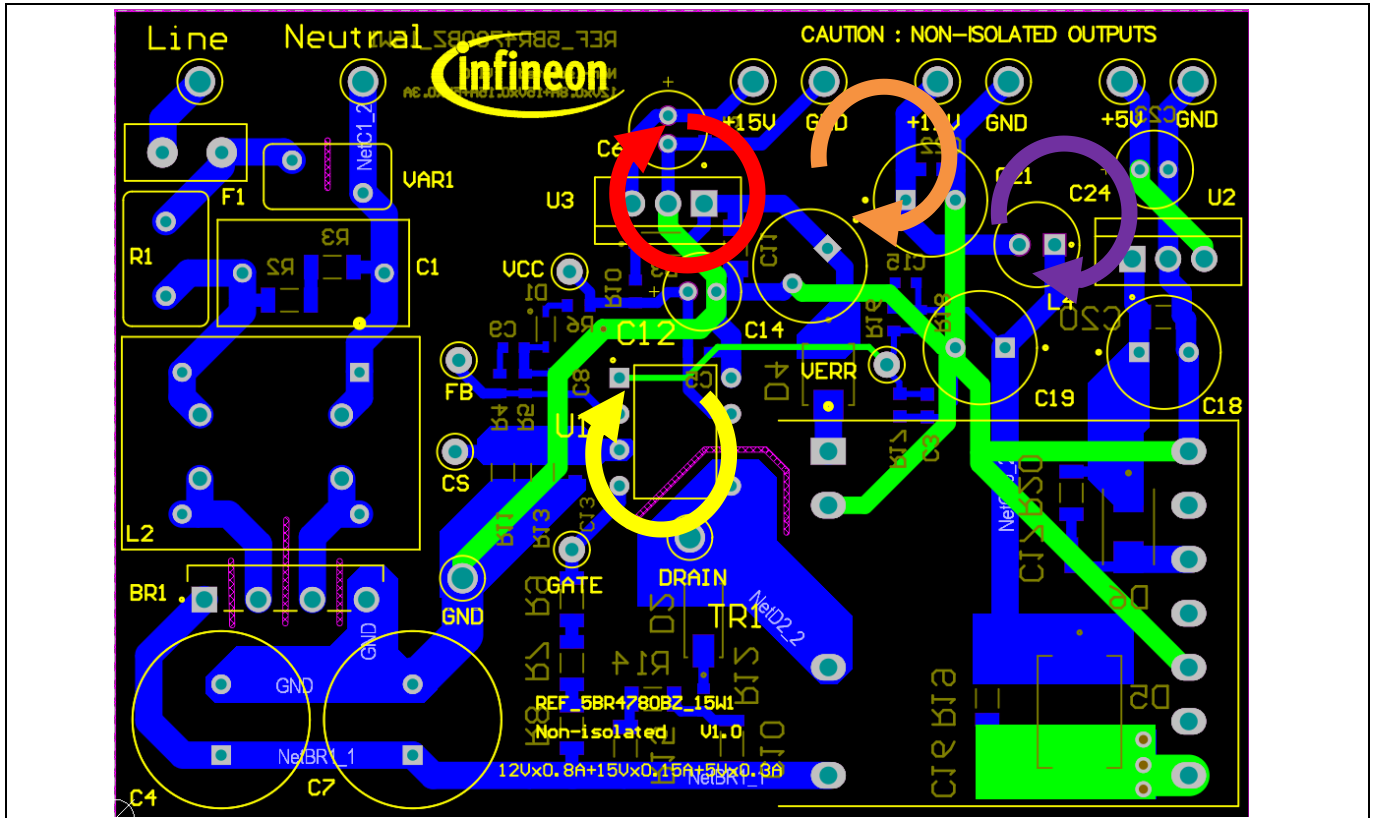

Figure 5 PCB layout tips
- The switching power loop needs to be as small as possible (see Figure 5). There are four power loops in the reference design; one on the HV side and three on the output side. The HV loop starts from the bulk capacitor C7 positive terminal, primary transformer winding, CoolSET™, CS resistors and back to the C7 negative terminal. The first output side loop (12 V output) starts at the transformer winding pin 8, output diode D5, output capacitor C19 and back to pin 10 of TR1. The second output loop (8 V output) starts at the transformer winding (pin 12 of TR1), output diode D6, output capacitor C18 and back to pin 14 of T1. The third output loop (18 V output) starts at the transformer winding (pin 2 of TR1), output diode D4, output capacitor C14 and back to pin 1 of T1.